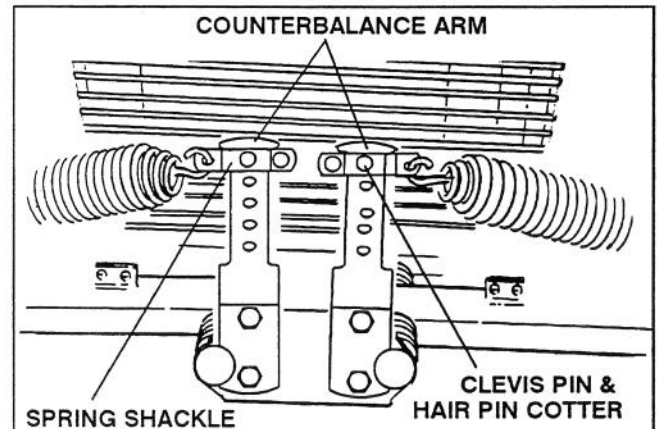

Figure 2
4. Remove hairpin cotter and clevis pin securing spring shackle to counterbalance arm (Fig. 2). Do not remove other clevis pin.